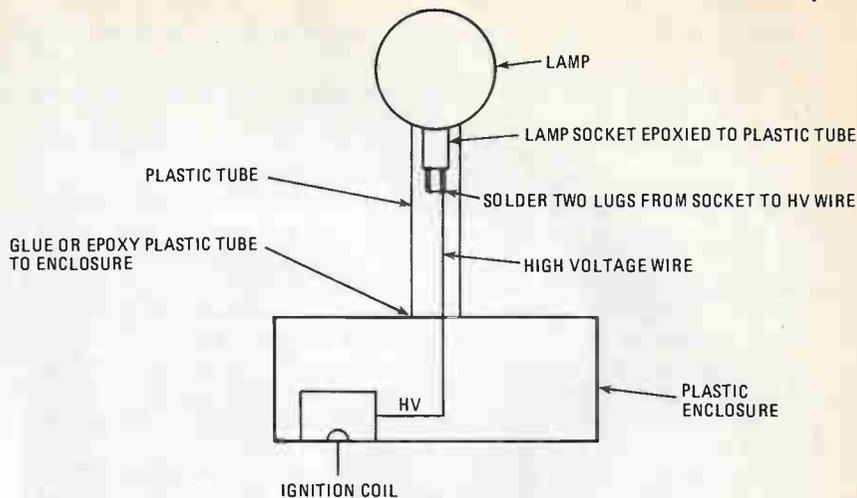

Fig. 4. Mount the lamp-and-socket assembly to its support column, and then mount the entire assembly on the project's plastic enclosure.
The lamp-support column is a 5- to 6-inch length of plastic tubing with an outside diameter (OD) of 1½ inches. After threading the wires from the lamp-and-socket assembly through the tube, secure the lamp-and-socket assembly to the tube with glue or epoxy. (See Fig. 4.) Once the glue has dried, re-reinforce the assembly where the lamp-and-socket assembly meets the support column with one or two wraps of tape.
The "hot" side of T1's secondary is connected to the bridged lamp-socket terminals (as shown in Fig. 4), and the negative side is connected to the lead coming from the aluminum plate on the lamp. Feed a line cord through the enclosure wall to the circuit board. Connect one lead from the line cord